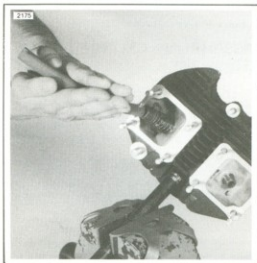

Figure 3-12. Lapping Valve and Seat
Lapping Valve Faces and Seats (Figure 3-12)
3. Repeat lapping procedure as shown in Figure 3-12.